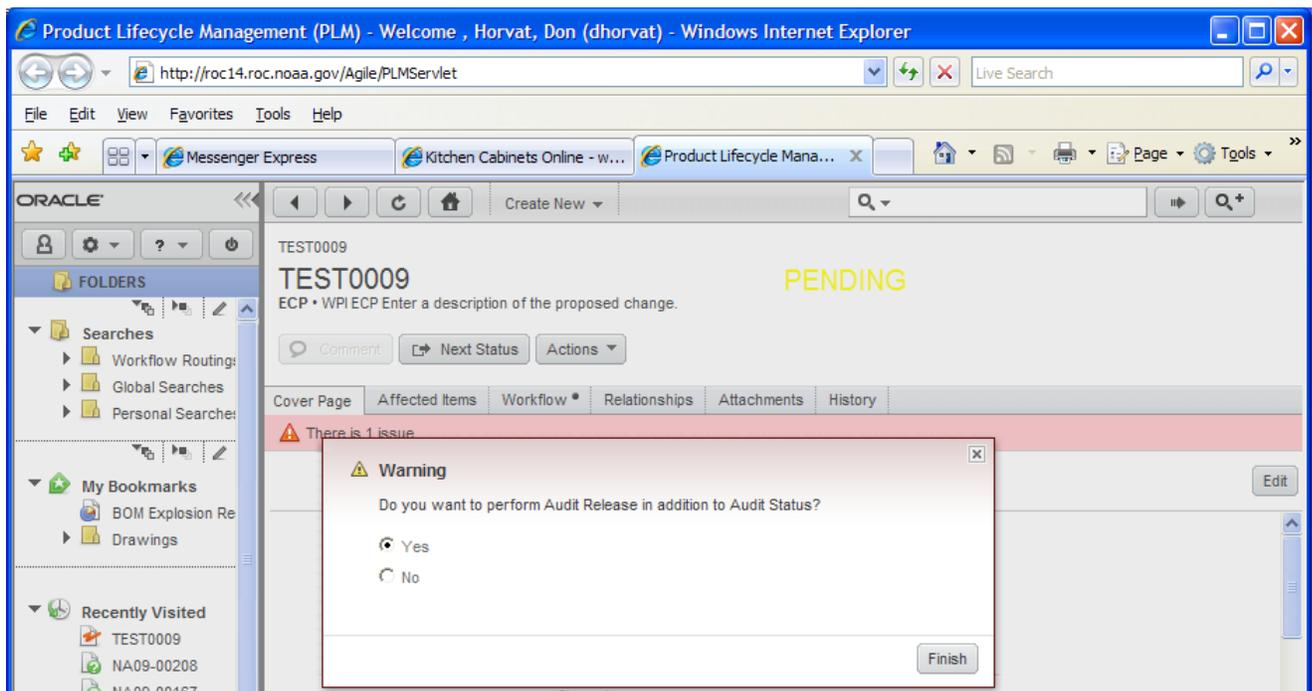

Figure 17: Audit prompt.
3. Agile will display a prompt offering to perform an audit release. With **Yes** selected, click **Finish** (Figure 17).